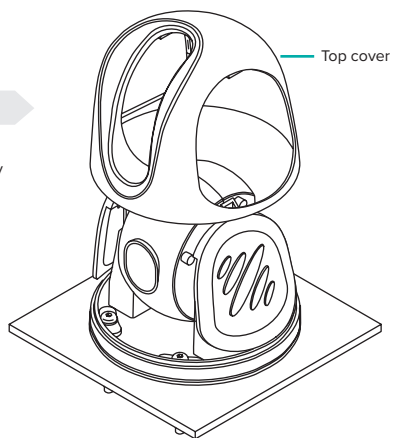

Fig. 5
6. Install the top cover over the to the camera body to lock the tilt position (Fig. 5).